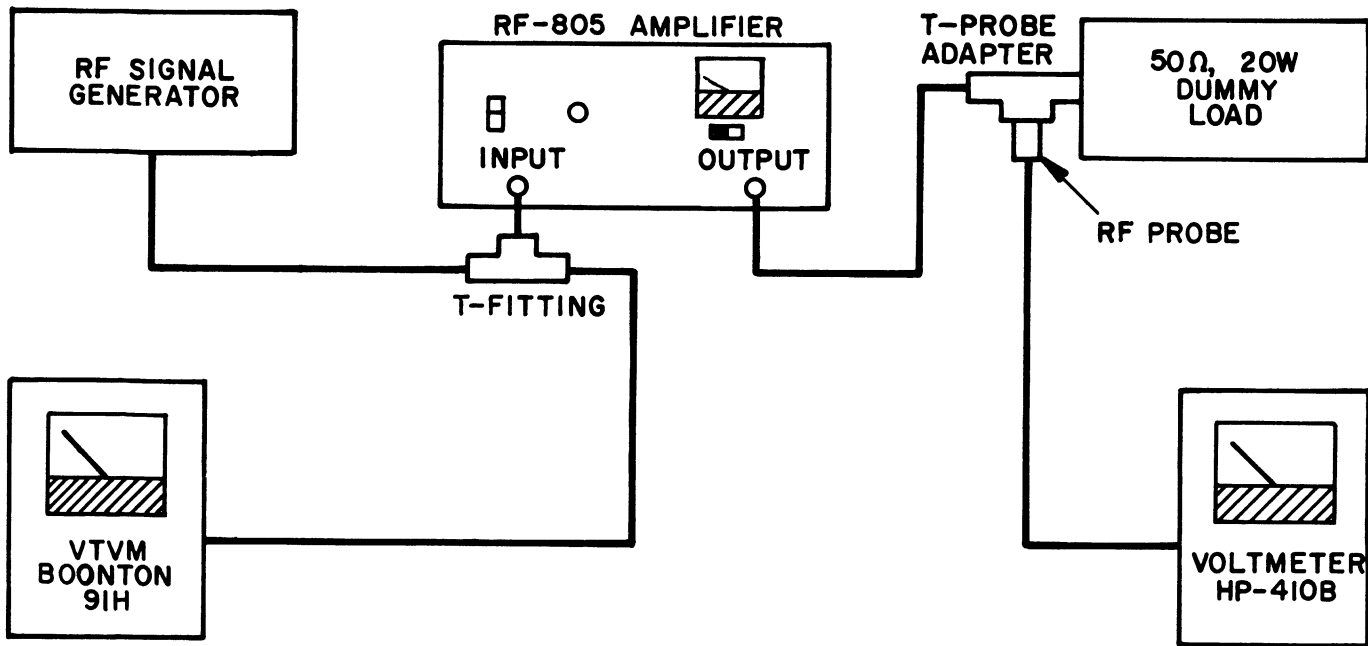

Figure 5-1. Amplifier Test Setup.
- a. Connect a 50-ohm, 20 watt RF dummy load and an HP-410B voltmeter to the OUTPUT connector, using a BNC "T" fitting as shown in figure 5-1. Use less than 3 feet of cable between the Amplifier and the load to minimize VSWR effects.